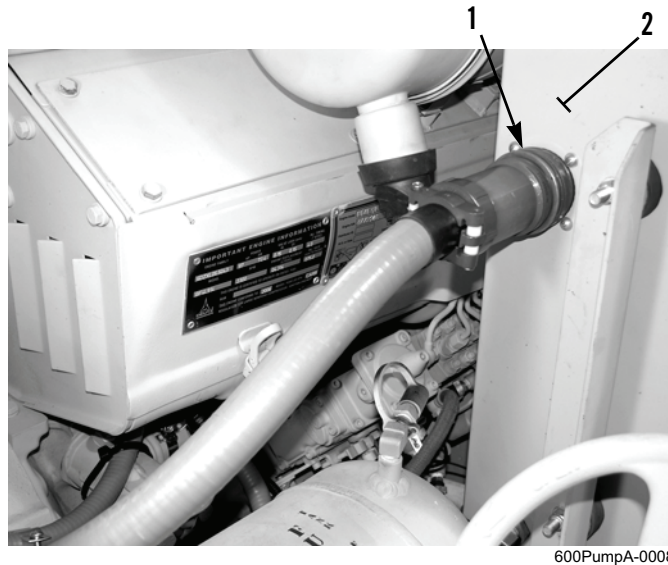

Figure 12. Wiring Harness Cable Connector at Control Panel Box.
10. Connect engine/control panel wiring harness cable connector (Figure 12, Item 1) to control panel box (Figure 12, Item 2).